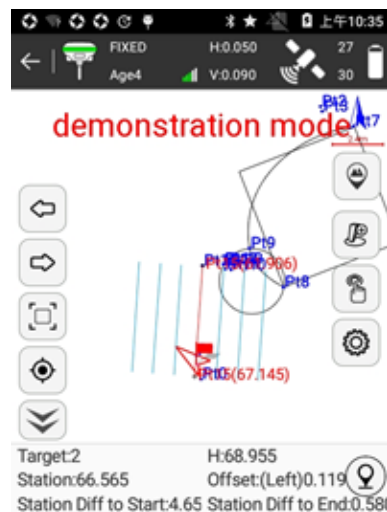

Figure 5.5-8
2. Select the Stakeout line and press [OK] to enter line stakeout interface. Start point shows mileage 0.000 and end point shows actual mileage. Red flag represents vertical distance from current point to line. Arrow indicates the direction of RTK. Please refer to Figure 5.5-8.